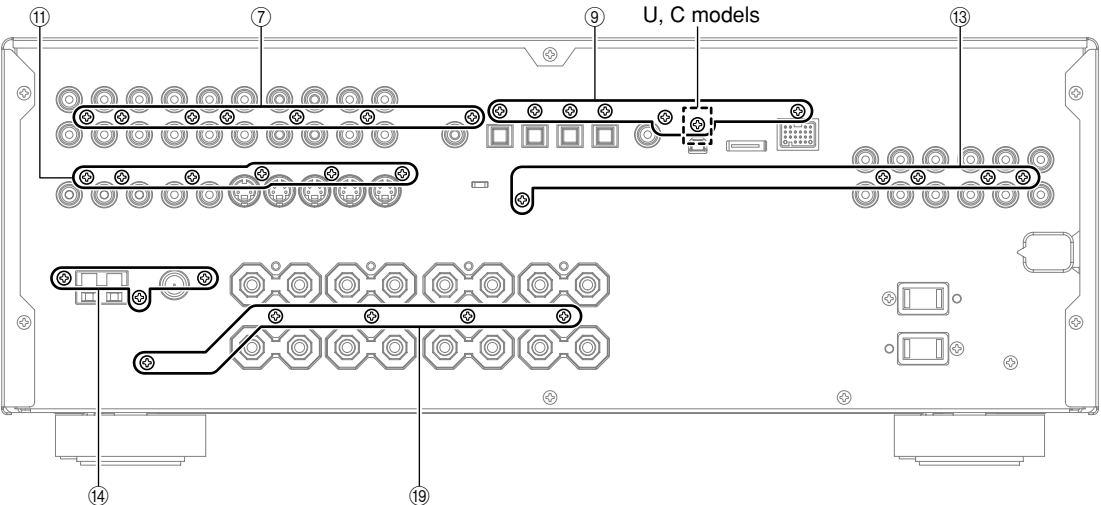

Fig. 4
- b. Remove 7 screws (U, C models) / 6 screws (T, A models) (9). (Fig. 4)
- b. Remove 6 screws (11). (Fig. 4)
- b. Remove 5 screws (13). (Fig. 4)
- a. Remove 3 screws (14). (Fig. 4)
- c. Remove 5 screws (19). (Fig. 4)